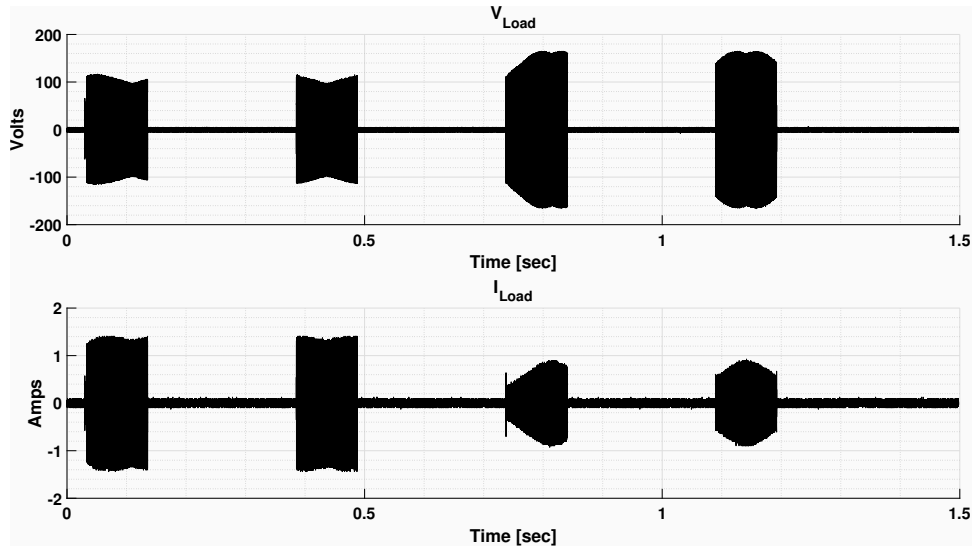
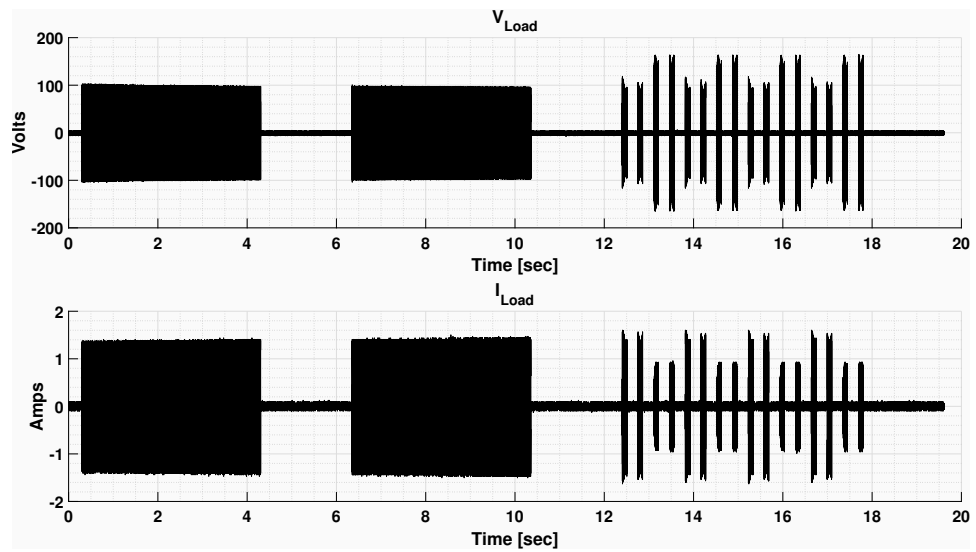
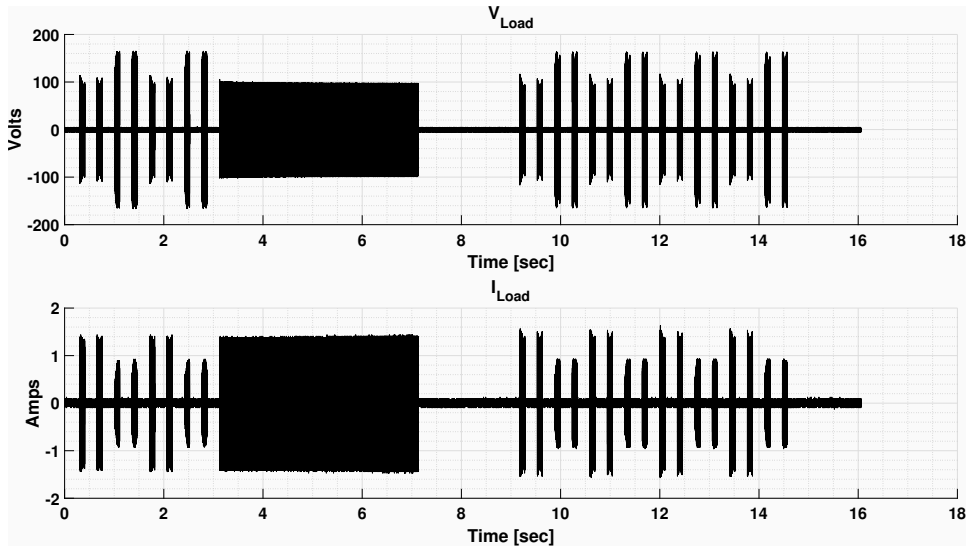
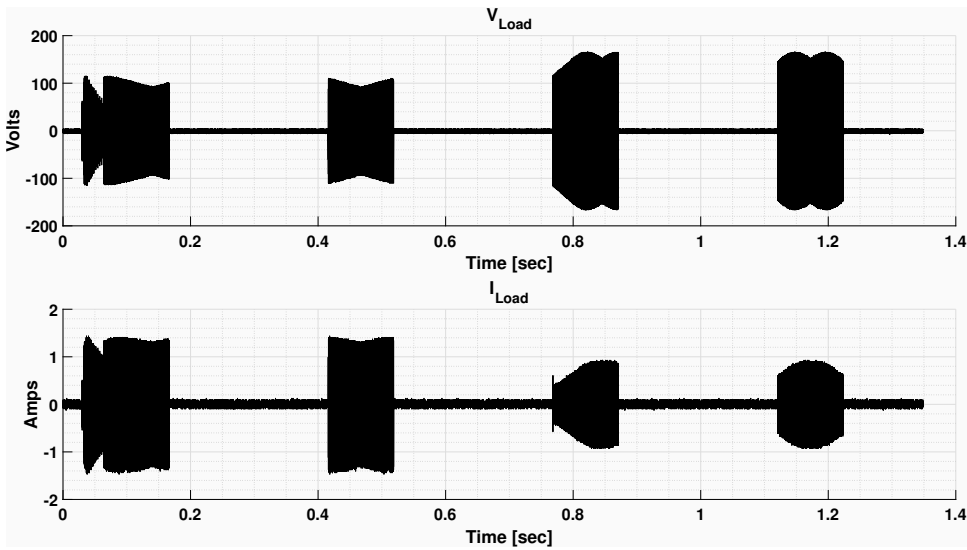

Figure 4-3. Water Cleaning LCS Voltage & Current
Figure 4-4. Deice Cleaning LCS Voltage & Current
Figure 4-5. Mud Cleaning LCS Voltage & Current
Figure 4-6. Auto Cleaning LCS Voltage & Current
Texas Instruments created three main cleaning modes for removing ice, mud, and water from the lens of the LCS and an Auto mode that can be programmed to drive a cleaning sequence when mass, such as water, is detected on the lens. Two additional custom modes are also available for flexibility. The valid bursts for cleaning modes are listed in Table 4-4. As a reference, scope voltage and current waveform captures for each type of cleaning mode are depicted in the following figures: Figure 4-3, Figure 4-4, Figure 4-5, and Figure 4-6.
CONTROL_Burst_MassDetect (19) makes the Auto Cleaning Mode possible. As shown in Figure 4-6, the MassDetect burst (19) is placed before the water and de-ice bursts (23, 16, 8, 9, 13, 14). Auto mode uses CONTROL_Burst_MassDetect to test whether the LCS has additional mass (for example, water) on the lens or not. If mass is detected, then the remaining bursts in Auto mode are run.